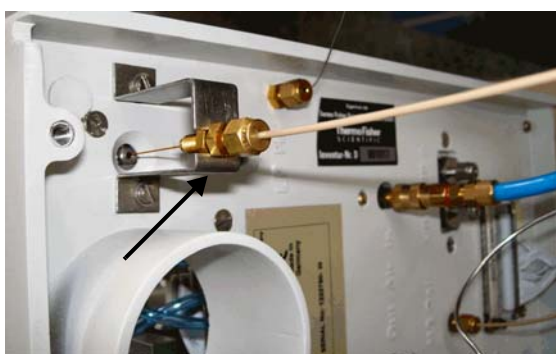

Figure 5-38. Low flow connector for GasBench II sample gas capillary
4. Connect the 0.32 mm ID fused silica capillary to the LF port of the ConFlo IV. See Figure 5-38 which shows the low flow connector for the sample gas capillary of the GasBench II at the rear panel of the ConFlo IV.